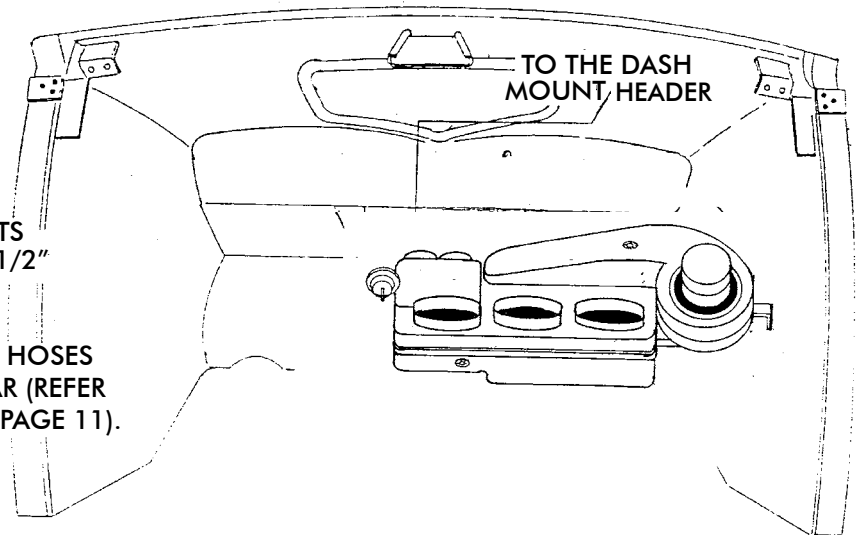

FIGURE 2
3. BRACKETS ARE FURNISHED TO MOUNT THE EVAPORATOR CASE USING THE COWL VENT (SEE FIGURE 2, BELOW, AND ATTACH TO FIREWALL AS SHOWN).
4. THE COWL VENT HANDLE WILL WORK IF MOVED TO THE SIDE. YOU CAN ALSO CONVERT TO ELECTRIC OR CABLE OPERATION. IF YOU CLOSE OFF THE COWL VENT, THE UNIT WILL FIT HIGHER IN THE CAR. **NOTE: TO MOUNT THE UNIT HIGHER, SIMPLY DETERMINE THE NEW LOCATION, MARK AND REDRILL THE BRACKET TO FIT AS DESCRIBED IN STEP 6 (SEE FIGURE 2, BELOW).**
6. HAVE A HELPER HOLD THE UNIT UP AS HIGH AS POSSIBLE, WITH THE BLOWER HOUSING AGAINST THE PASSENGER SIDE KICK PANEL. LOCATE THE BRACKET ON THE TOP RIGHT SIDE OF THE BLOWER HOUSING. SCRIBE THROUGH THE 1/4" HOLE IN THE BRACKET TO MARK THE FIREWALL. CHECK TO SEE IF THE LOCATION YOU MARKED LOOKS OK AND WILL CLEAR OBSTRUCTIONS ON BOTH SIDES OF THE FIREWALL. IF SO, DRILL A 9/32" HOLE IN THE FIREWALL. ATTACH THE EVAPORATOR TO THE FIREWALL BY THE BLOWER MOTOR BRACKET WITH A 1/4 - 20 X 1" BOLT AND NUT. USING THE REAR EVAPORATOR BRACKET AS A GUIDE, MARK AND DRILL THROUGH THE 1/4" HOLE IN THE BRACKET. ATTACH THIS BRACKET TO THE FIREWALL WITH A 1/4 - 20 X 1" BOLT AND NUT. THIS WILL LOCATE THE EVAPORATOR HORIZONTALLY. NOW SECURE THE FRONT EVAPORATOR SUPPORT STRAP TO THE UNIT WITH THE 1/4 - 20 X 1/2" BOLT. THIS SUPPORT BRACKET WILL ATTACH TO THE DASH MOUNT HEADER. WITH THE UNIT HELD IN PLACE AND LEVEL, MARK THROUGH THE 1/4" HOLE AT THE TOP OF THE BRACKET ONTO THE SHEET METAL HEADER. MAKE SURE THAT THE SPOT MARKED WILL PROVIDE A GOOD MOUNTING LOCATION FOR THIS BRACKET. DRILL A 9/32" MOUNTING HOLE. SECURE THE MOUNT STRAP TO THE COWL HEADER AS SHOWN IN FIGURE 2 WITH A 1/4 - 20 X 1" BOLT AND NUT.